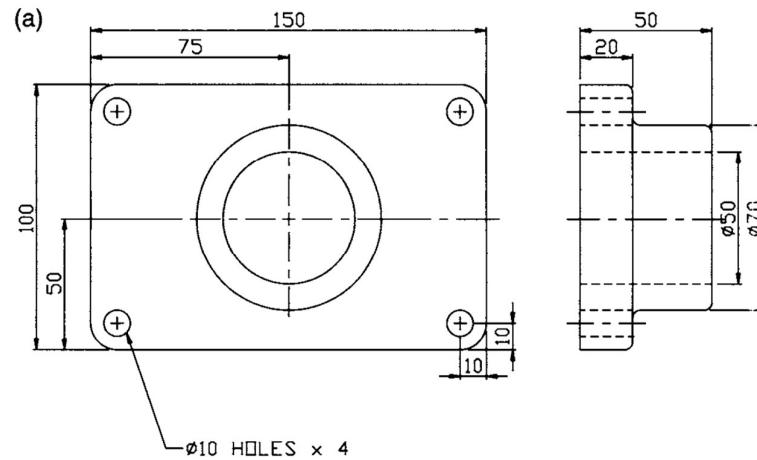

Figure Q7.5
- 10 (b) Consider the cast iron component shown in Fig. Q7.5. Given the sequence of operations in following Table, determine the work holding requirements for the part in terms of jigs/fixtures. (16)